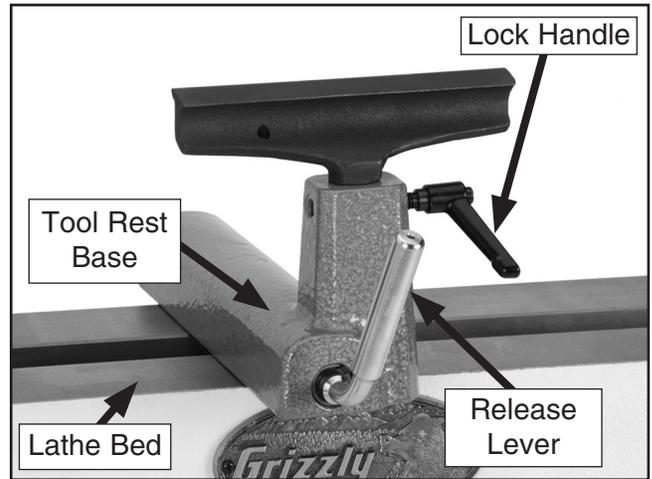

Figure 22. Tool rest controls.
1. Loosen the release lever and slide the tool rest base along the bed (**Figure 22**).
1. Loosen the lock handle (**Figure 22**) and adjust the tool rest vertically and/or swivel it as needed, then tighten the lock handle.